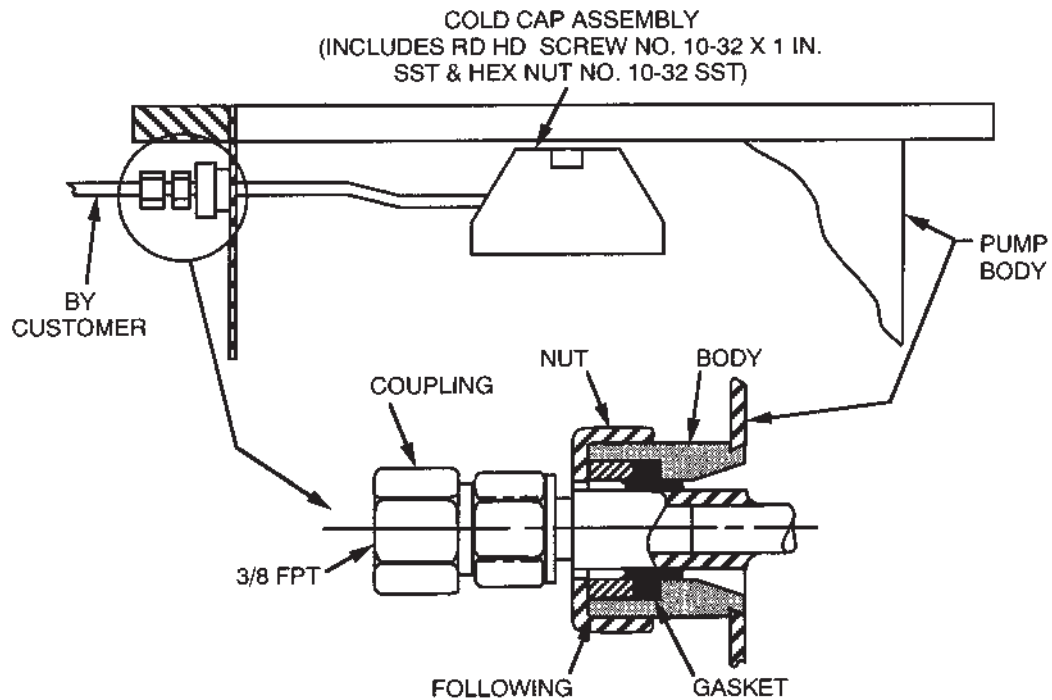

Figure 3-2. External Fittings – Cold Cap Assembly
- d Lower the entire heating unit (heater element, clamping plate and heater shield, see Figure 3-2) until it is off the mounting studs.
660811494	Cold cap gasket (see Figure 3-2)